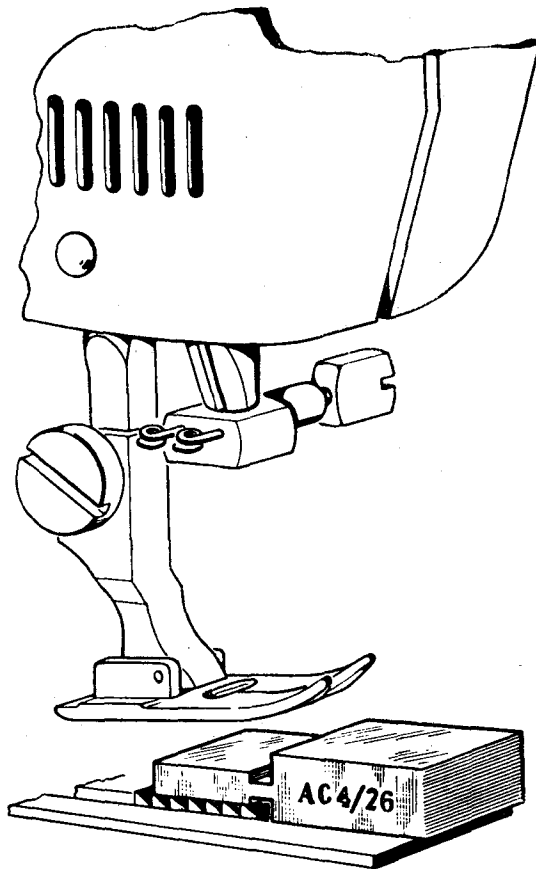

Fig. 45
If the timing gauge No. AC 4/26 (see Fig. 45) is available, use it in the following manner:
- a. Remove presser foot and needle from the machine, then place the timing gauge No. AC 4/26 upon the needle plate, as shown in Figure 45. Turn the balance wheel slowly and check whether the teeth of the feed dog, when in their highest position, are between the two reference faces of this timing gauge (Maximum and Minimum).